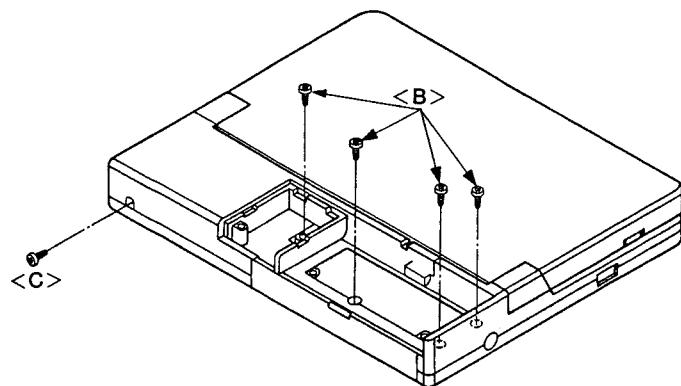

Figure 4
- (5) Remove four screws ($3\phi \times 8\text{mm}$) as shown in Figure 4.
- (6) Remove one screw <C> ($3\phi \times 5\text{mm}$) as shown in Figure 4.